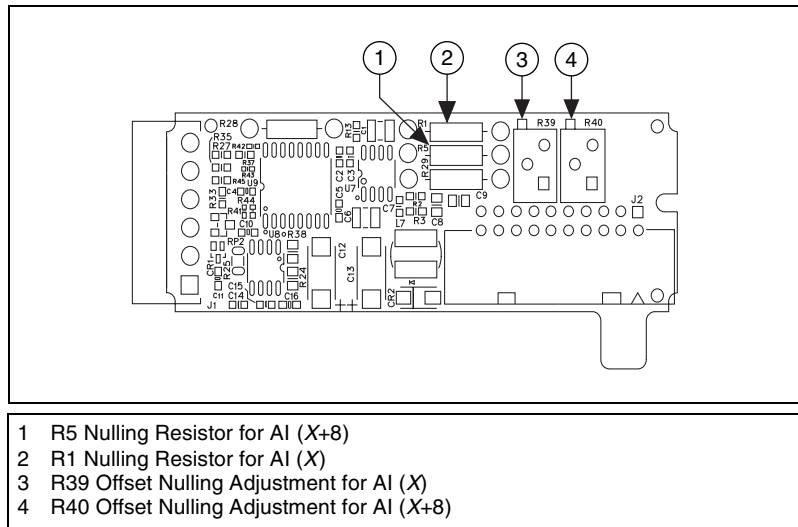

**Figure 19.** SCC-SG0X Parts Locator Diagram
6. Locate the completion resistor and replace it with a resistor that matches the value of the strain gage element actively measuring strain. Refer to Figure 19 to locate the completion resistor.
6. Locate the nulling resistor and replace it. Refer to Figures 19 and 20 to locate the nulling resistors.
- 2 R1 Nulling Resistor for AI (X)
- 3 R39 Offset Nulling Adjustment for AI (X)